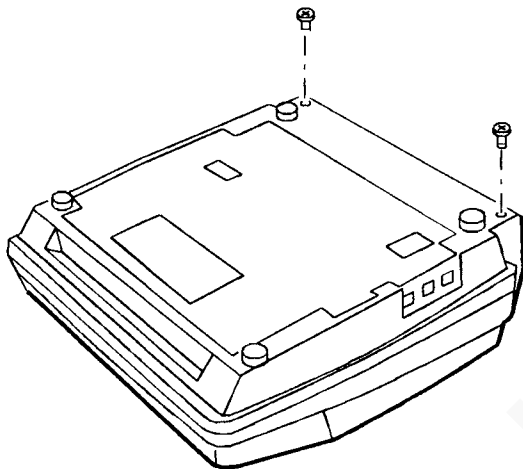

Figure 1. Top cover
5. Turn the machine upside down and remove two screws (Figure 1).